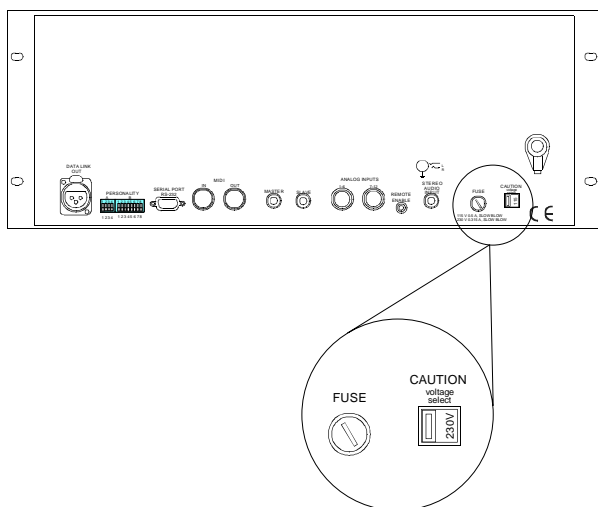

Figure 1-1. Location of the controller's voltage selection switch and fuse.
At the time of this writing, the Studio Color LCD controller is shipped from the factory set to 230V. Carefully examine the controller's voltage setting (as shown in Figure 1-1 on page 1-9), then follow the instructions in this section if you need to change it.
To change or verify the controller's input voltage setting, locate the voltage selection switch on the rear panels shown in Figure 1-1 on page 1-9.
2. Using a small screwdriver, carefully push in on and turn the fuse holder counter-clockwise and remove it from the controller. The fuse holder is shown in Figure 1-1.